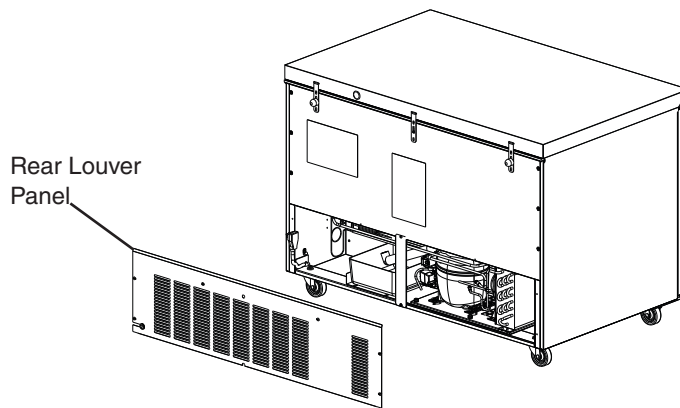

Fig. 6
- 4) Remove the rear louver panel. See Fig. 6.